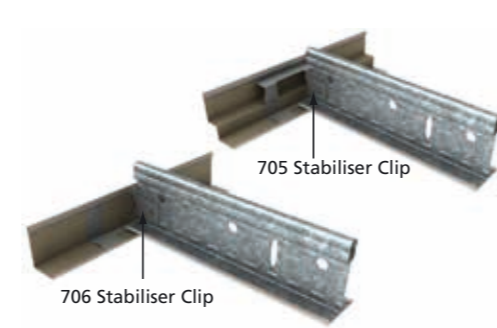

FIGURE 3: STABILISER CLIPS
- Ensure the integrated self locking joiners on Main Tees are properly locked together. Where Main Tees abut the wall trim, secure with the relevant stabiliser clip as per Figure 3.
- Fix Cross Tees into position through the slots in the Main Tee with a gentle push. The opposing cross tees positively lock together as per Figure 5. The slots in the Main Tee are spaced 100mm apart to ensure the correct space is maintained between the Cross Tees (600mm apart for a 1200 x 600 panel). Cross Tees abutting the wall trim should be secured with the relevant clip, as per Figure 3, at not more than 1800mm centres unless otherwise specified.